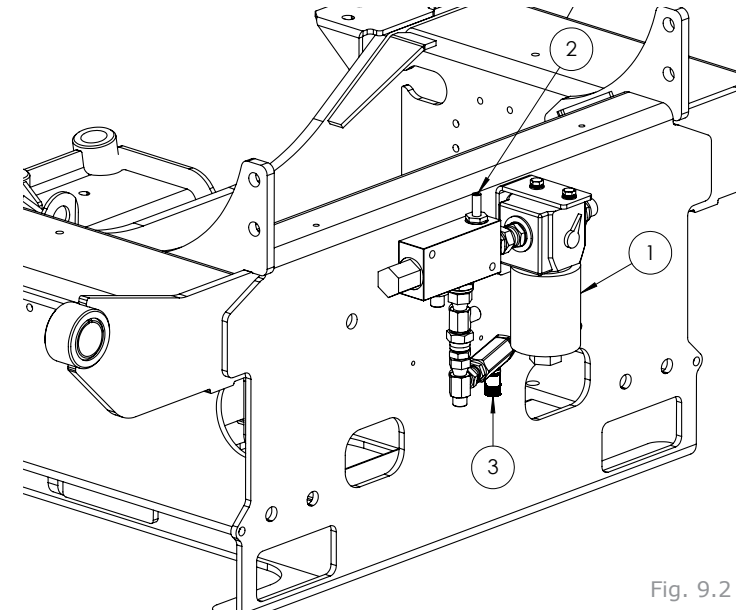

Fig. 9.2
The speed of the wrapping arm on the 1120 model is set by the valve (2) at the rear of the chassis adjacent to the oil filter (1) (clockwise rotation reduces the speed), the roller speed can be adjusted by turning the knob of the valve (3) directly below the wrap arm speed adjustment valve (clockwise rotation increases the speed) (see Fig 9.2).